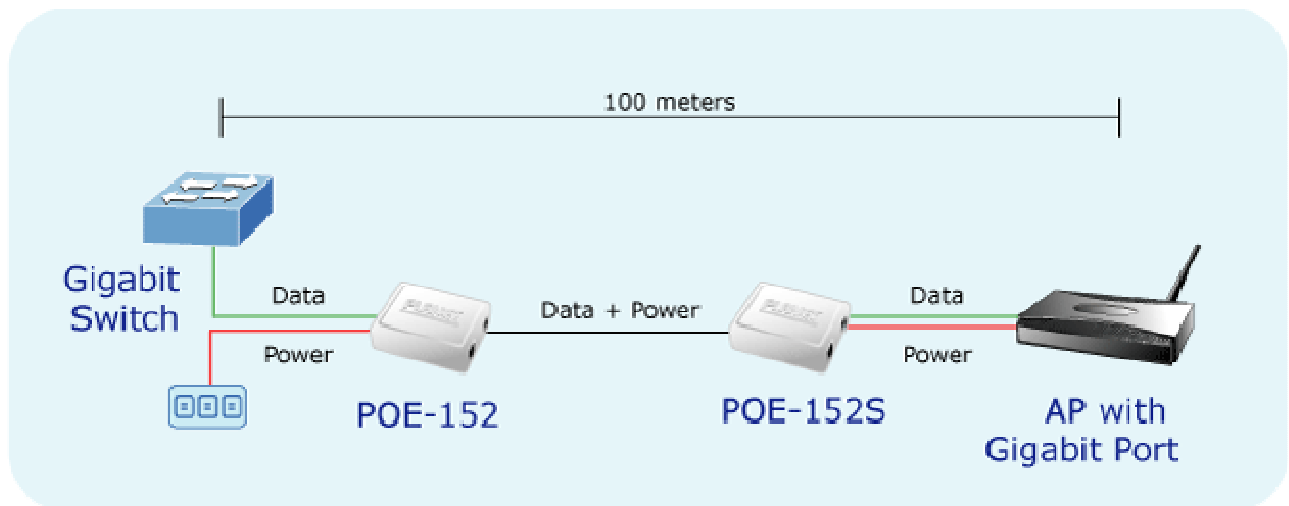

Figure 2: Connection architecture over POE-152/152S
4. Power on the remote device and the LED indicator on POE-152S will remains on, the screen in Figure 2 appears.